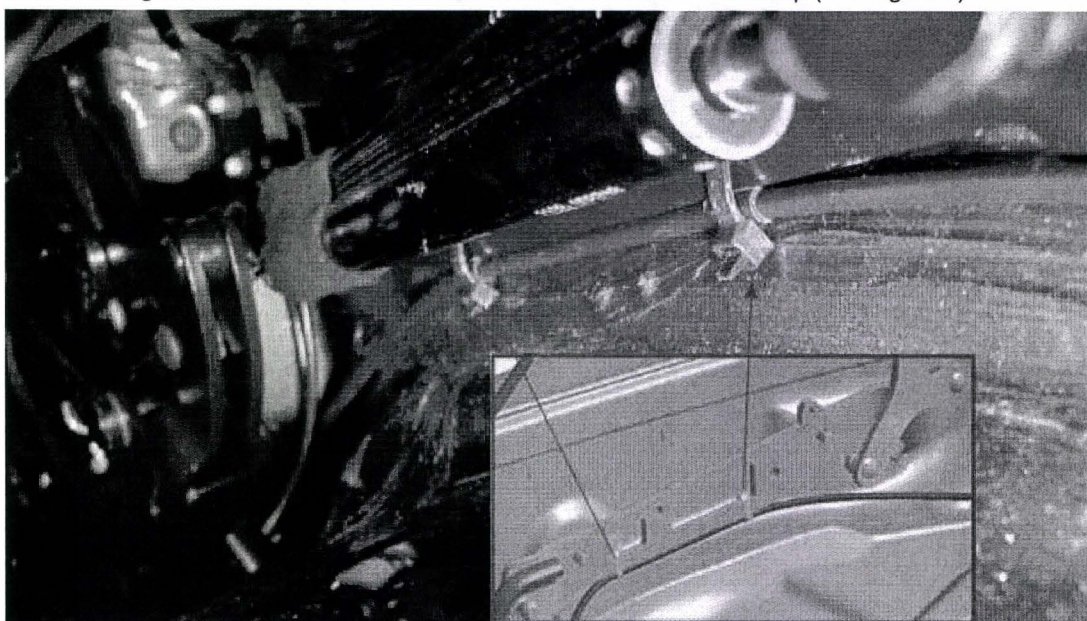

Figure 9
7. Start clipping the cables at the two new positions under the tonneau cover hydraulic ram as per TPI 2033508. Ensure the cable ties are placed at the points identified by the ring of black tape (see Figure 9)
8. For each of the two new Bowden cables three SPC 1442 and one 3D0971838N cable tie are used in the locations shown in figure 10 and one original clip shown in figure 11, all other clips that were previously used to retain the Bowden cable must not be used and therefore can be removed and discarded (see Figure 9,10 and 11)